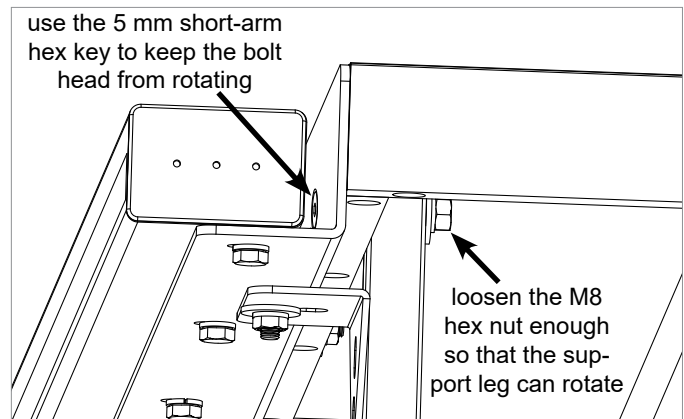

Fig. 21
- Loosen the M8 x 65 countersunk socket head bolt that mounts the front leg to the front rail, but do not remove the bolt or nut. Use the 5 mm short-arm hex key supplied with the mobile base to keep the bolt from turning while you loosen the nut with a 13 mm wrench (see Fig. 21). The 5 mm short-arm hex key is sized so that it can engage the head of the bolt without having to remove the front rail tube. Repeat the procedure to loosen the M8 hex nut on the back of the M8 x 65 countersunk socket head bolt that mounts the rear leg to the rear rail. Rotate the end of each support leg toward the saw so that both support legs are out of the way and the saw can be tipped onto its side.